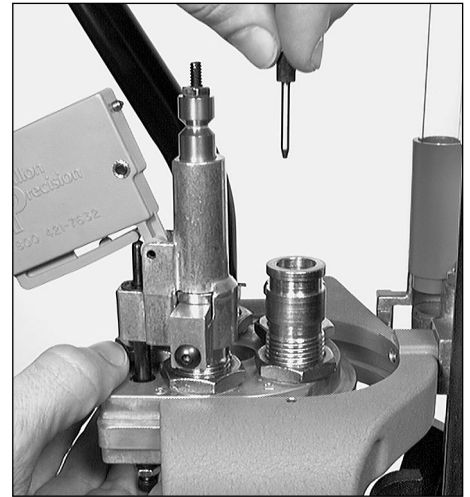

FIG 157
Step 3) Remove the toolhead **FIG 157**: